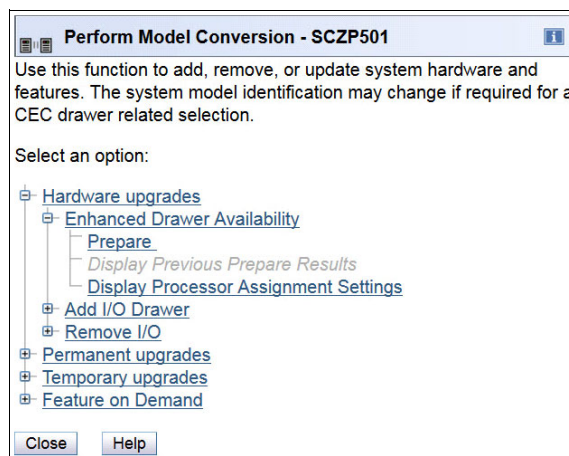

Figure 9-4 Clicking Prepare for Enhanced Drawer Availability option
For the EDA process, this phase is the preparation phase. It is started from the SE, directly or on the HMC by using the Single object operation option on the Perform Model Conversion window from the CPC configuration task list, as shown in Figure 9-4.
The preparation step can be run without performing a drawer replacement. You can use it to dynamically adjust the operational configuration for drawer repair or replacement before IBM SSR activity. The Perform Model Conversion window in you click **Prepare for Enhanced Drawer Availability** is shown in Figure 9-4 on page 378.
5. Repeat the step that is shown in Figure 9-4 on page 378 to ensure that the required conditions are all satisfied.